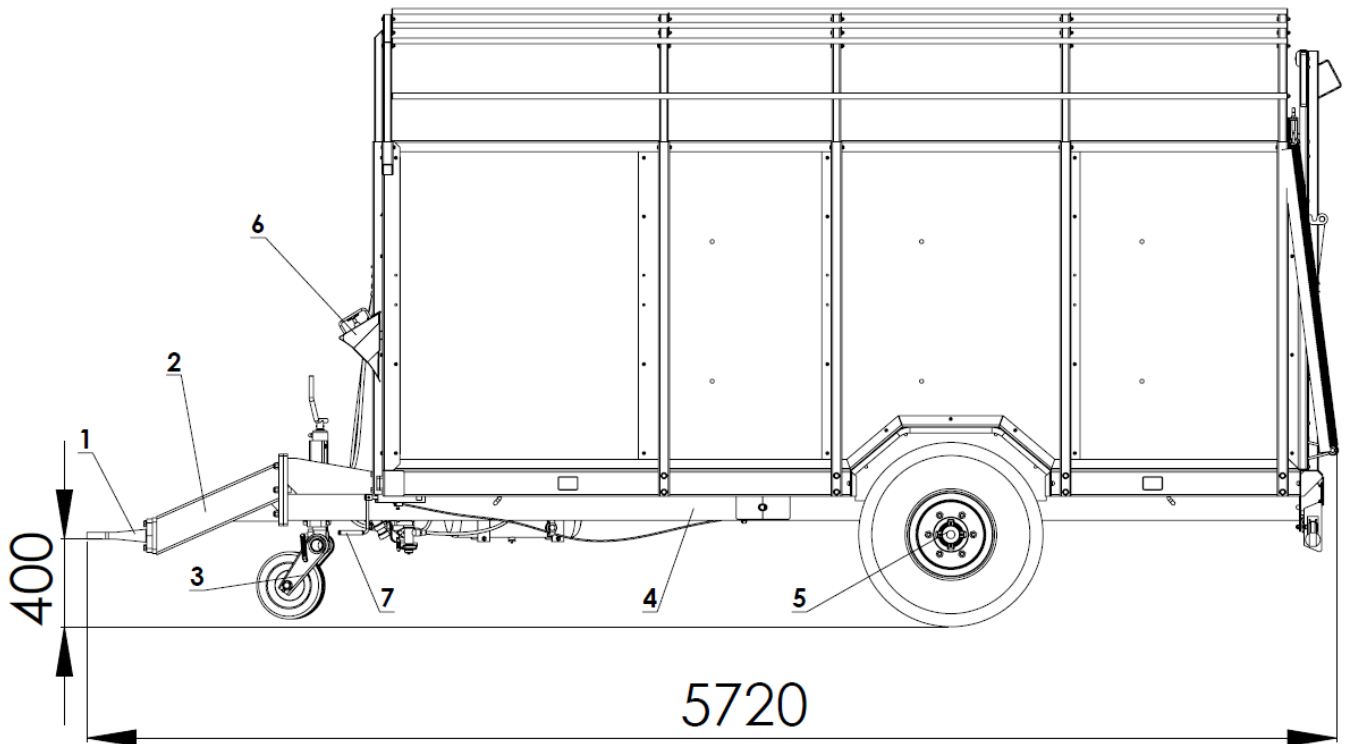

Fig. 5. T-677 trailer (view from side).
The driving axle is made of a square bar ending with pivots, on which tapered roller bearings, and then wheel hubs, are mounted. These are single wheels equipped with shoe brakes activated by mechanical cam expanders. An adjustable drawbar (item 2 fig. 5) and support (item 3 fig. 5) are found in the front part of the frame. Drawbar fastening variants are presented in fig. 2.